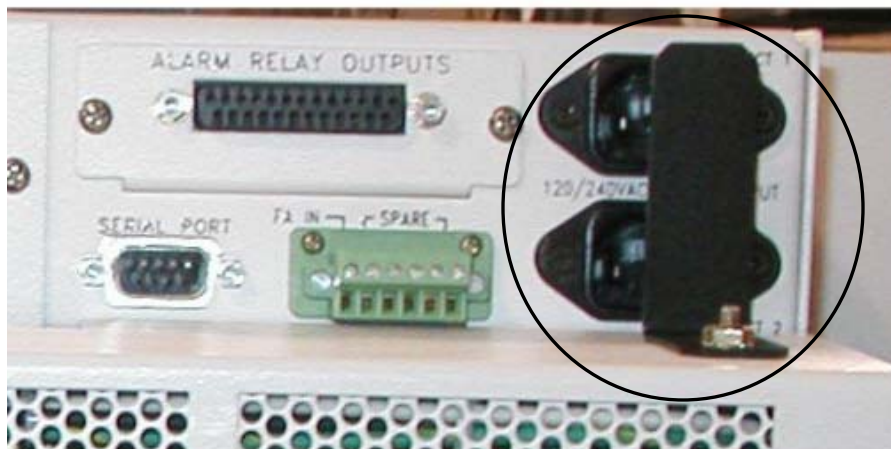

Fig. 1-2: Input Connections
- Connect (plug) the AC input power cord(s) to the plant (See Fig. 1-2). Do not plug in the power cord to the AC service.